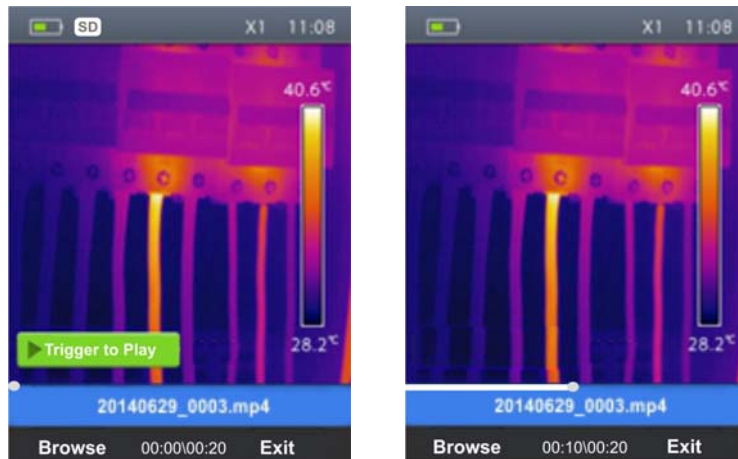

Fig. 28: Playback of videos on the display
1. Press the key  and recall the video on the display (see Fig. 28 – Left side).
4. Press the **T** (Trigger) key to activate video playback. A cursor and progress bar are shown on the display (see Fig. 28 – Right side).